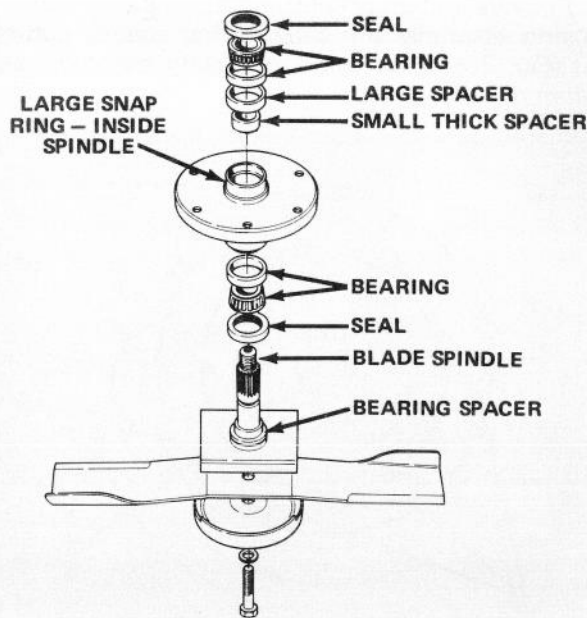
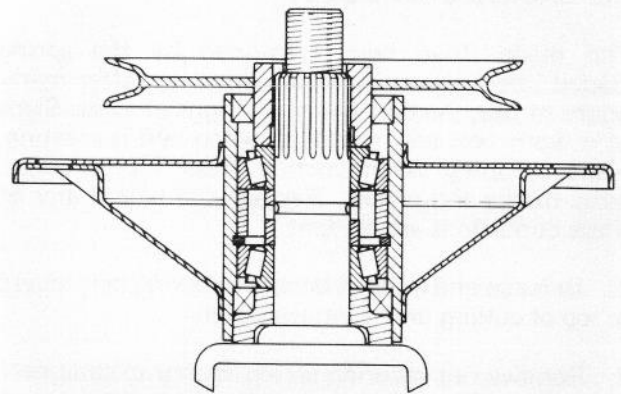
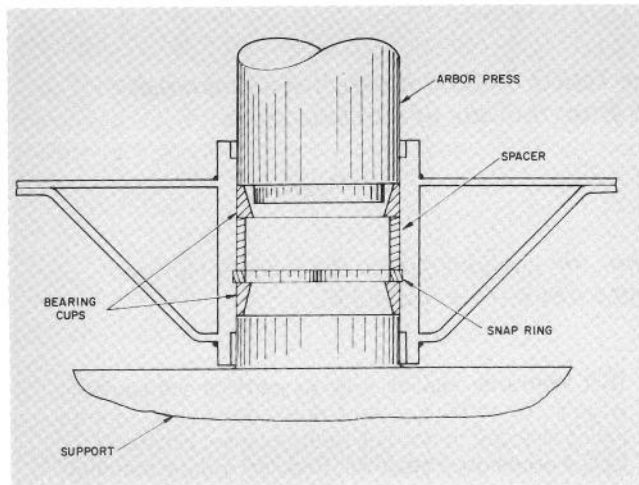

Figure 21
Figure 22
Figure 23
5. If spindle shaft will be replaced, move bladebolt, lockwasher, anti-scalp cup and blade from spindle shaft (Fig. 21). Otherwise, the blade and its other associated parts may be left on the spindle shaft.
6. Press spindle shaft out of spindle housing (Fig. 21) using an arbor press. Bearing spacer (Fig. 21) remains on spindle shaft as shaft is being removed.
7. The seals (Fig. 21) will be removed next; however, notice the lip of the seal. The lip of the upper seal faces inward, and the lip of the lower seal faces outward. Therefore, new seals must always be installed with the lip facing in the proper direction. Now remove seals from spindle housing.
8. Allow bearings and small thick spacer to fall out of spindle housing (Fig. 21).
9. Using a punch and hammer, drive both bearing cups (Fig. 21) out of spindle housing. Also drive large spacer (Fig. 21) out of housing.
1. Install large snap ring into groove in bore of spindle housing (Fig. 22). Assure snap ring is seated in the groove.
2. Using an arbor press, push the large spacer into top of spindle housing and tightly against the snap ring (Fig. 21). Spacer must contact snap ring to be sure of correct assembly of parts (Fig. 22).
3. Thoroughly oil cups and using an arbor press, push bearing cups — smallest ID first — into top and bottom of spindle housing (Fig. 21). Top bearing cup must contact spacer that was installed in step 2, and
bottom bearing cup must contact snap ring to be sure of correct assembly of parts (Fig. 22). Insure assembly is correct by supporting the first cup and pressing the second against it (Fig. 23).
4. Apply a film of grease on lip of both seals; then install bearing and seal into bottom of spindle housing (Fig. 22). Remember though, the bottom seal must have the lip facing outward (Fig. 21) not toward inside of spindle housing.
5. Slide small, thick spacer into spindle housing (Fig. 21). Then, install bearing and seal into top of spindle housing. Lip of the seal must face outward.
7. Slide bearing spacer onto spindle shaft. Carefully slide spindle shaft through spindle housing. Bottom seal and bearing spacer fit together when spindle is installed (Fig. 22).